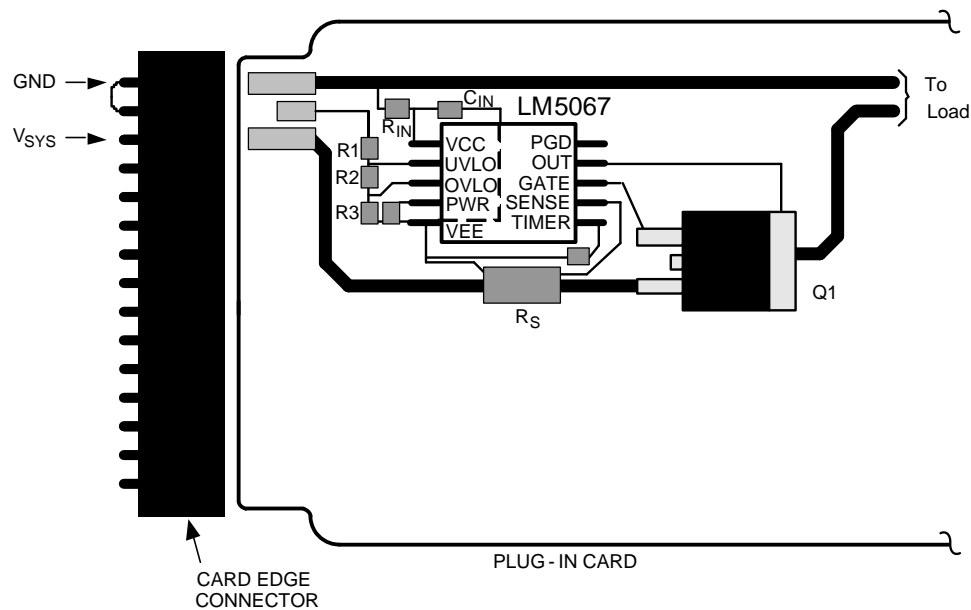

Figure 21. Suggested Board Connector Design
- The board's edge connector can be designed to shut off the LM5067 as the board is removed, before the supply voltage is disconnected from the LM5067. In Figure 21 the voltage at the UVLO/EN pin goes to VEE before V_{SYS} is removed from the LM5067 due to the shorter edge connector pin. When the board is inserted into the edge connector, the system voltage is applied to the LM5067's VEE and VCC pins before voltage is applied to the UVLO/EN pin.